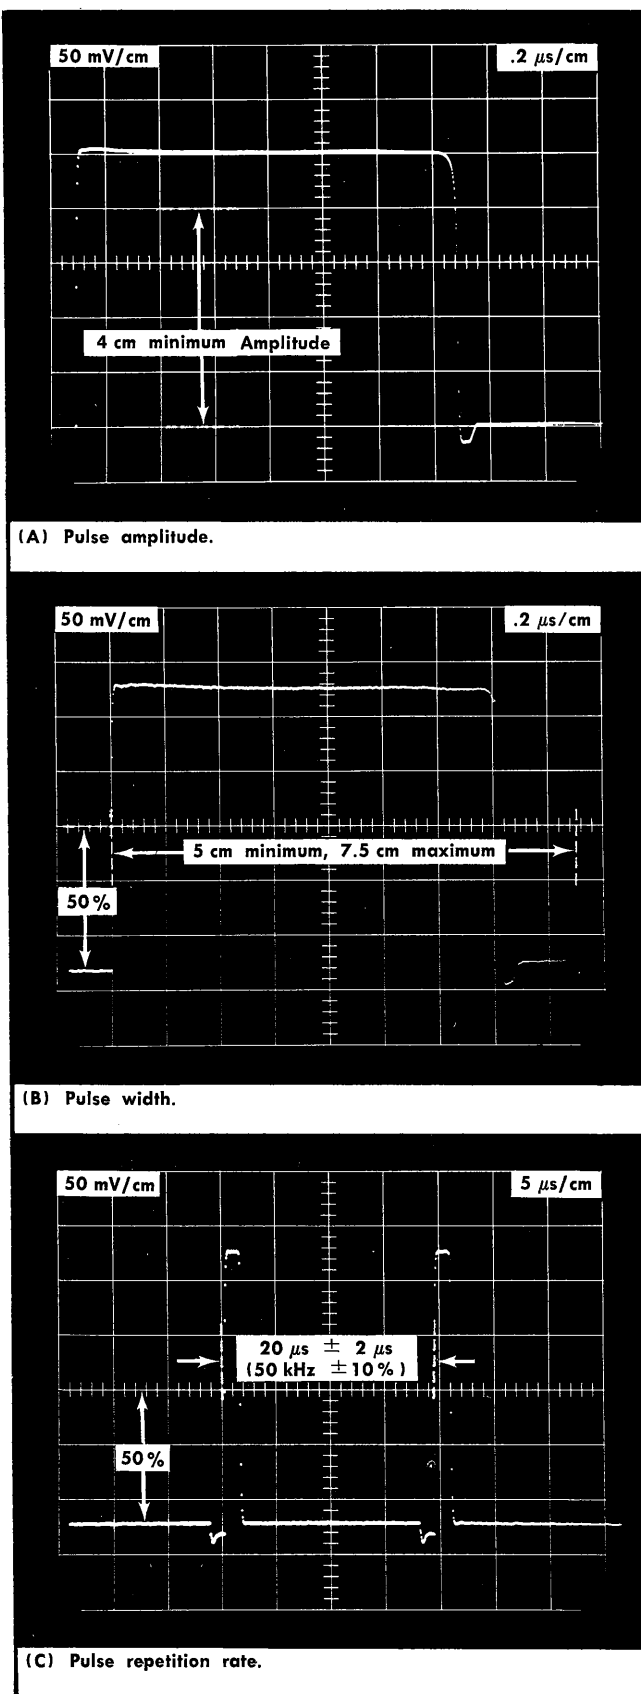

Fig. 5-12. Typical displays used in steps 13, 14 and 15.
c. Set the Equivalent Time/cm switch to  $.5 \mu\text{s}$  calibrated, and set the Time Position control to obtain a two-pulse display; see Fig. 5-12. Measure the time between positive-going portions of the pulses.